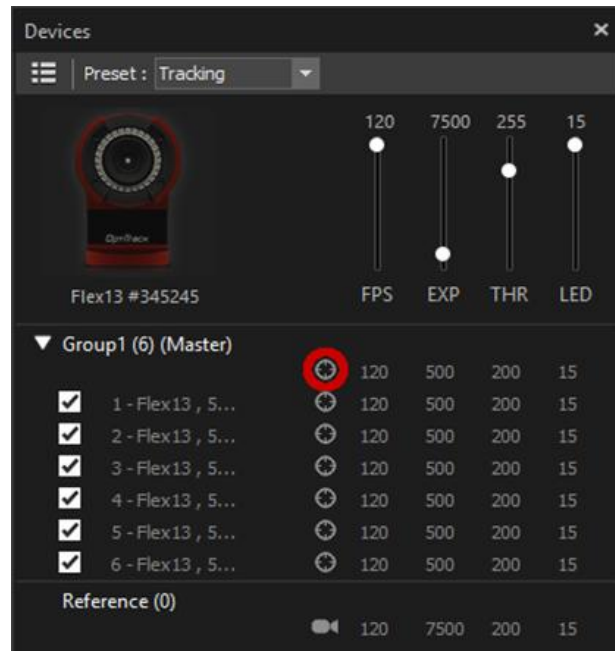

Figure 2. Devices pane in Motive:
1. Open Motive. Under the **Devices** pane, ensure that Motive can detect all Flex 13 cameras (Figure 2) Make sure all cameras are in tracking mode.